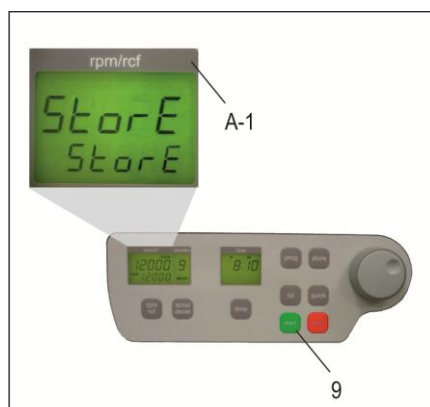

Figure 4
- All changed settings must be confirmed by the key, "start" (9). A confirmation screen will appear with the word, "store", in the display "rpm/rcf"(A-1) - Only then the pre-selections are valid, (see Figure 4)!